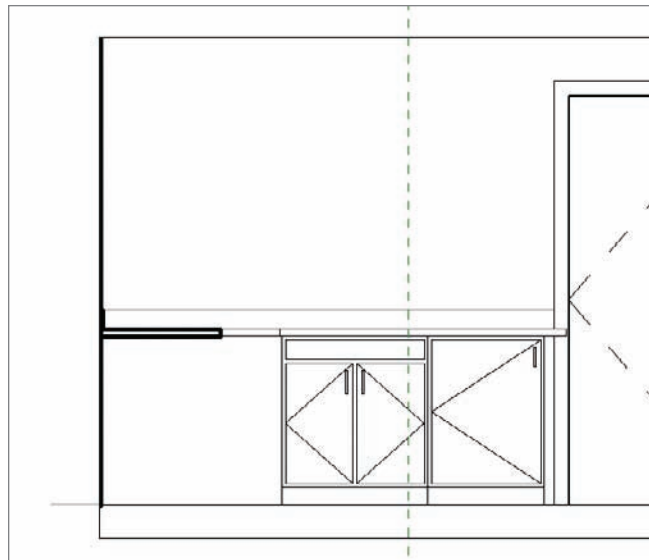

FIGURE 9.59 The elevation of the cabinet run
4. Press Esc twice; then select the Kitchen North elevation. Does your elevation look like Figure 9.59?